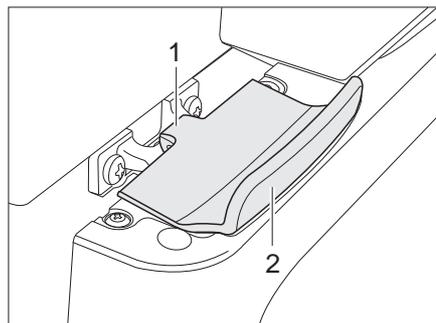

Fig. 147 Lock of refrigerator door, closed (Thetford)
- Open the refrigerator door at the handle (Fig. 147,2). The lock (Fig. 147,1) is released automatically.